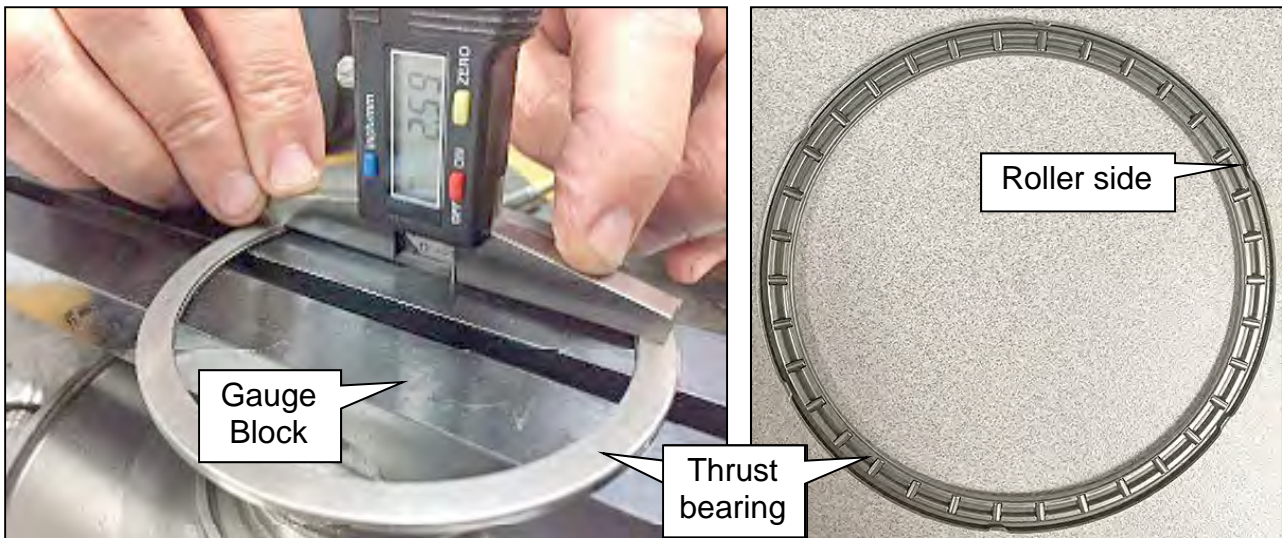

Figure 149
- Place the thrust bearing roller side down on the Gauge Block (Figure 149).